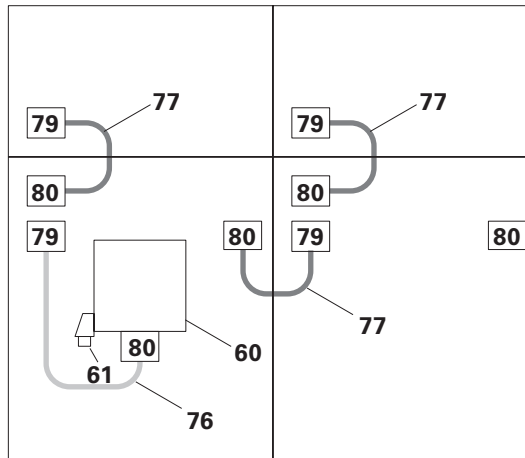

Fig. C2.07
1. Connect the yellow connecting cable (76) from the output socket of the control cabinet (60) to the input socket (79) of the first Standard Heated Panel.
2. Using the orange connecting cables (77), connect the output sockets (80) of the Standard Heated Panel to the input sockets (79) of the Extension Heated Panel and the second Standard Heated Panel.
3. Correspondingly connect additional Extension Heated Panels and Standard Heated Panels. (Fig. C2.07)